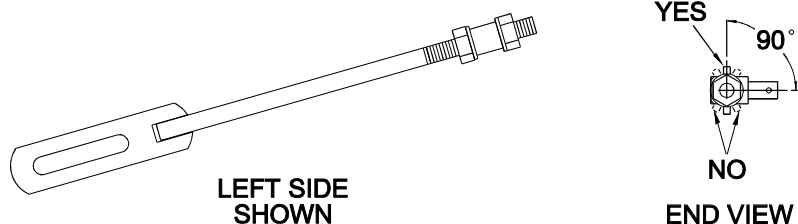

FIGURE 10
2. Loosen the front nut on **left** hydro control linkage as shown in Figure 10. Turn the rear control linkage adjusting nut counter-clockwise until wheel rotates forward. Turn the rear nut of left control link clockwise 1/4 of a turn at a time, stopping to move the speed control forward and back to neutral, until left wheel stops rotating forward. Turn the rear nut an additional 1/2 turn and tighten the front nut making sure not to put a bind on the linkage. Make sure flat part of linkage is perpendicular to pin part of swivel (See Figure 10).